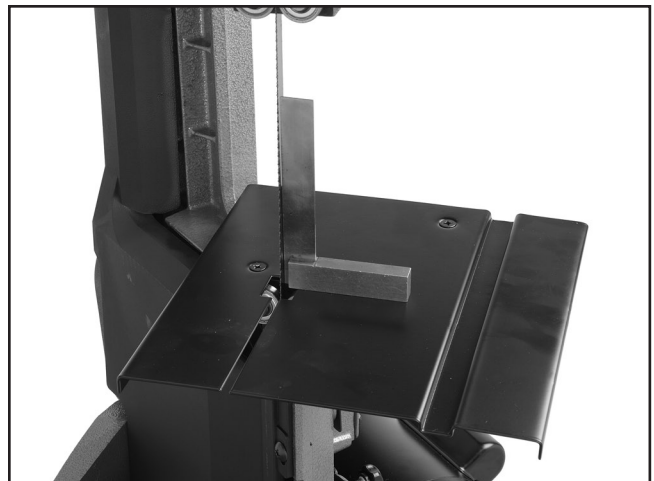

Figure 22. Squaring table to blade.
4. Set a square to the side of the blade, as shown in **Figure 22**, and adjust the bracket to square the table to the blade.